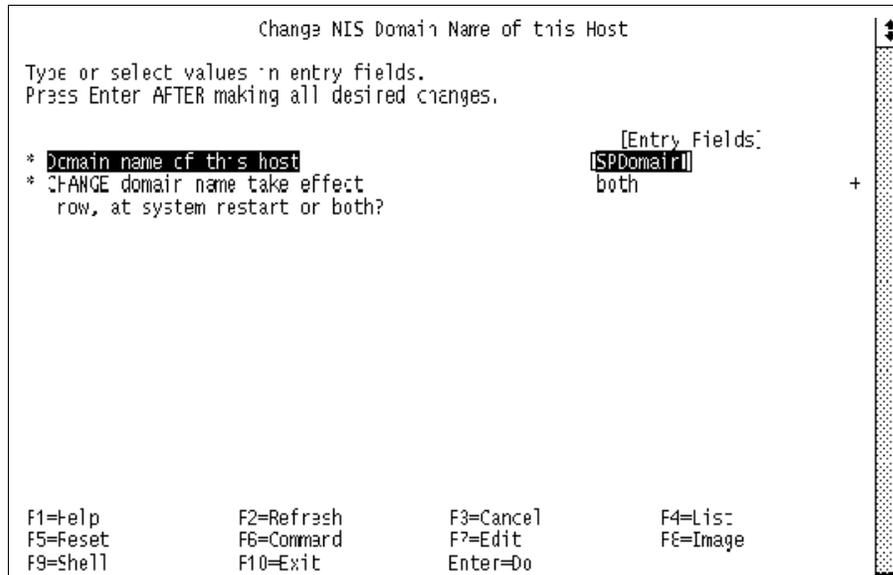

Figure B-1 SMIT panel for setting an NIS domain name
- ▶ Choose **Change NIS Domain Name of this Host** to define the NIS domain. Figure B-1 on page 539 shows what this SMIT panel looks like. In this example, SPDomain has been chosen as the NIS domain name.